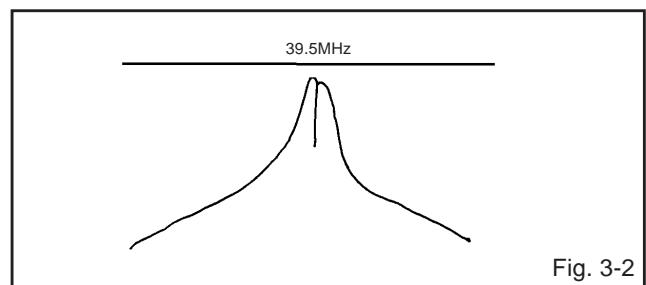

Fig. 3-2
4. Adjust the **L6011** until the waveform marker (39.5MHz) becomes as shown in **Fig. 3-2**.